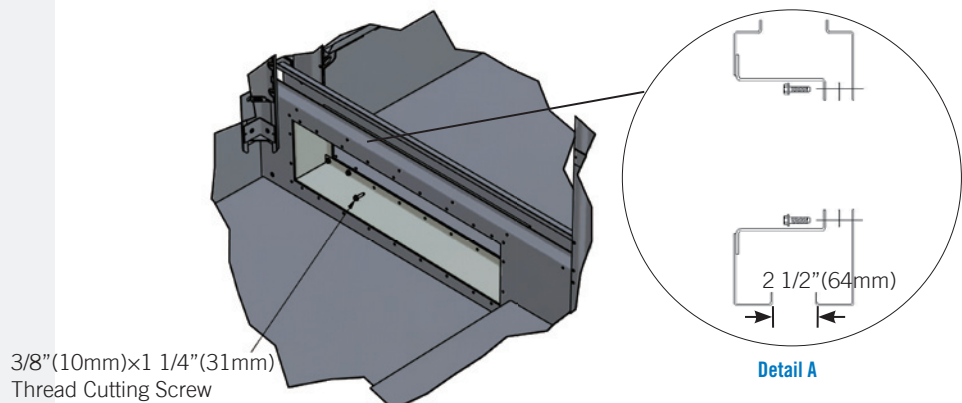

Figure 6. Thread Cutting Screw Pattern for Flume Box
6. As illustrated in **Figure 6**, insert 3/8”(10mm) x 1 1/4”(32mm) thread cutting screws in each hole from the flume box into the basin wall and tighten.